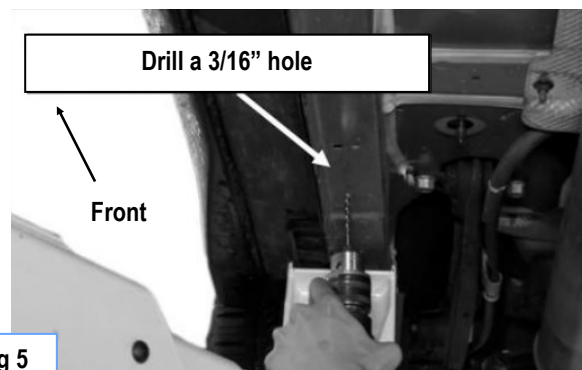

Fig 5
Remove bracket and drill a 3/16" hole on the body panel according to the mark. Enlarge the hole to 7/8" with a unibit (**Fig 5 & 6**). Suggest to paint the drilled hole with undercoating for antirust. And then insert (1) M10x35 Short Bolt Plate into the hole.